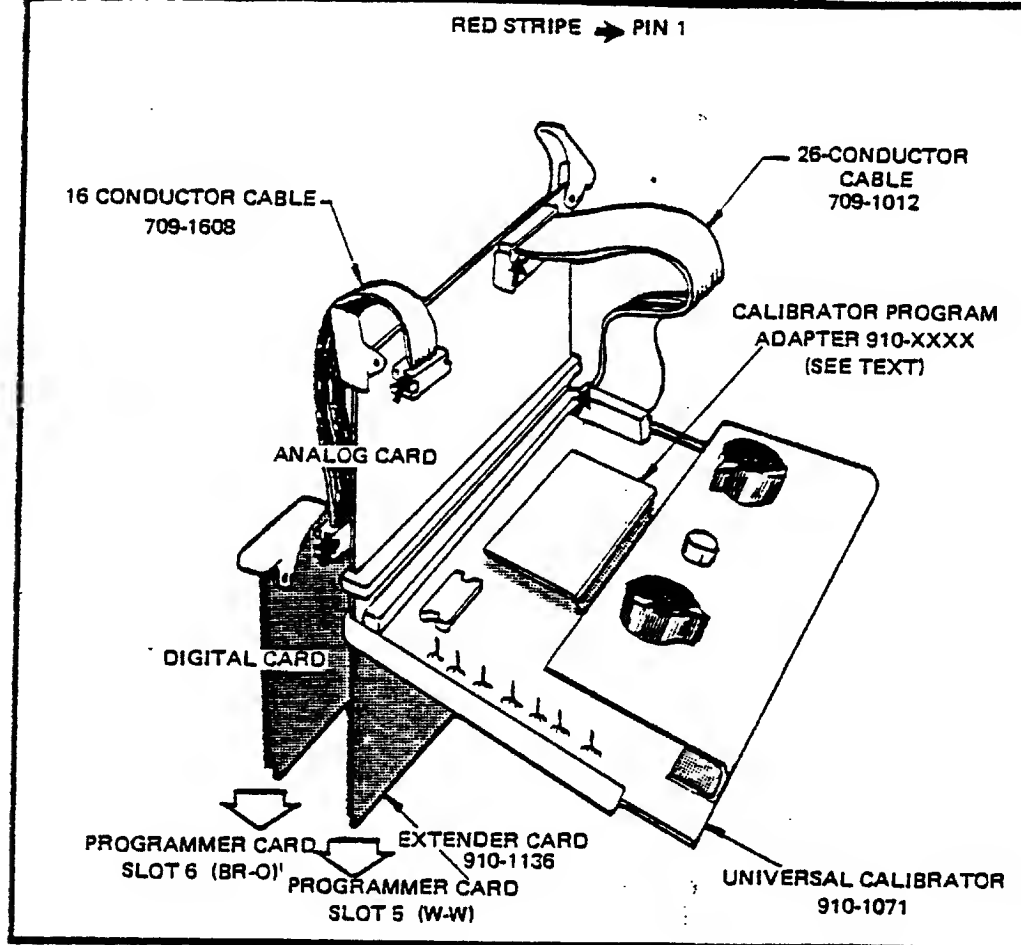

Figure 3. Installation of Universal Calibrator into Programmer Models 1, 2, 3, and 5 for AC Dynamic Tests.
2. A. Programmers 1-5: Remove the digital card from the card cage. Refer to Figure 3.